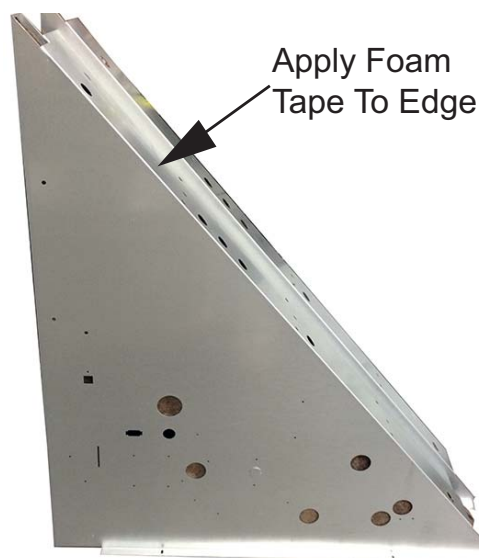

Figure 12 - Applying foam tape to the divider
- Measure and cut a length of 1/8 in. foam tape to fit on the diagonal edge of the RA/OA divider. See Figure 12.